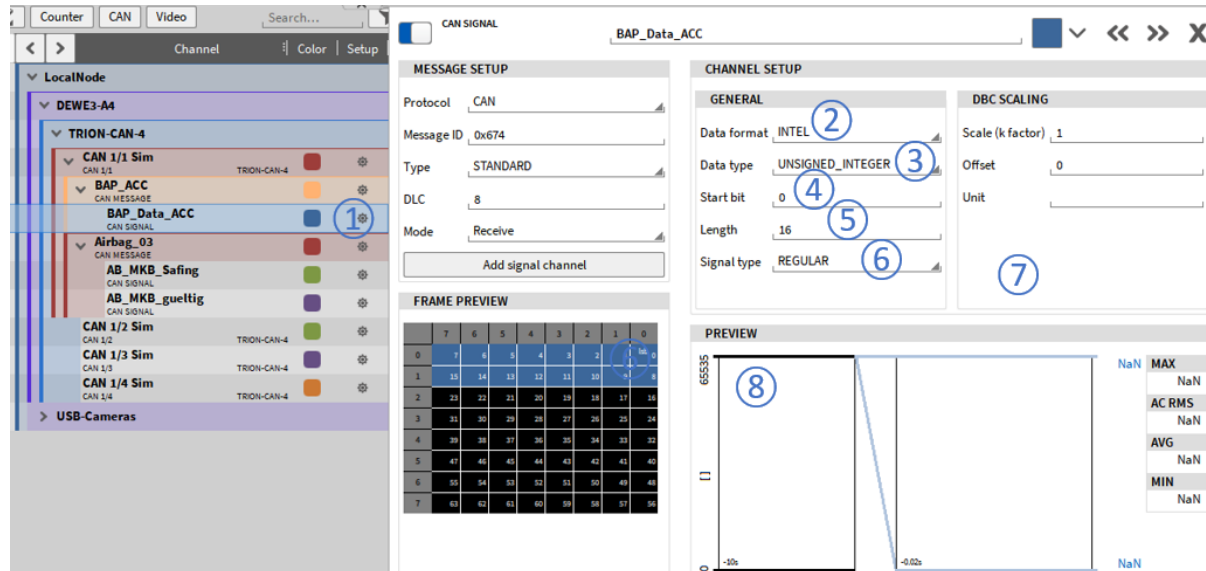

Fig. 7.202: CAN signal setup
The CAN signal setup can be accessed by pressing the gear button of the respective CAN signal in the Channel List (see ① in Fig. 7.202).
- Data format (see ② in Fig. 7.202): Intel or Motorola
- Data type (see ③ in Fig. 7.202): Double, Float, Signed Integer or Unsigned Integer
- Start bit (see ④ in Fig. 7.202): Define the start bit of the signal within its message
- Length (see ⑤ in Fig. 7.202): Define the length of the signal within its message
- Signal Type (see ⑥ in Fig. 7.202): Regular, Multiplexed or Multiplexor
- DBC Scaling (see ⑦ in Fig. 7.202): Change the scaling of the signal
- Preview: (see ⑧ in Fig. 7.202): The preview shows the past 10 seconds of the signal to check if proper settings have been applied to the signal.